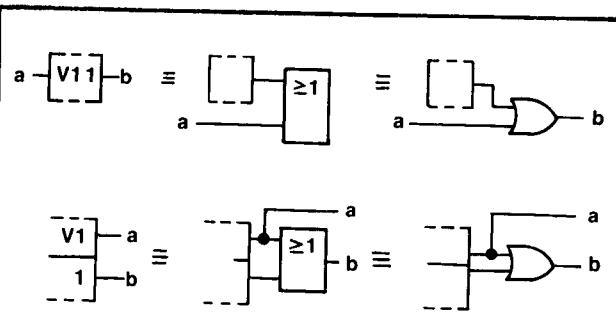

Figure 8-10. V (OR) Dependency
8-80. V (OR) DEPENDENCY. The symbol denoting OR dependency is the letter V. See *Figure 8-10*.